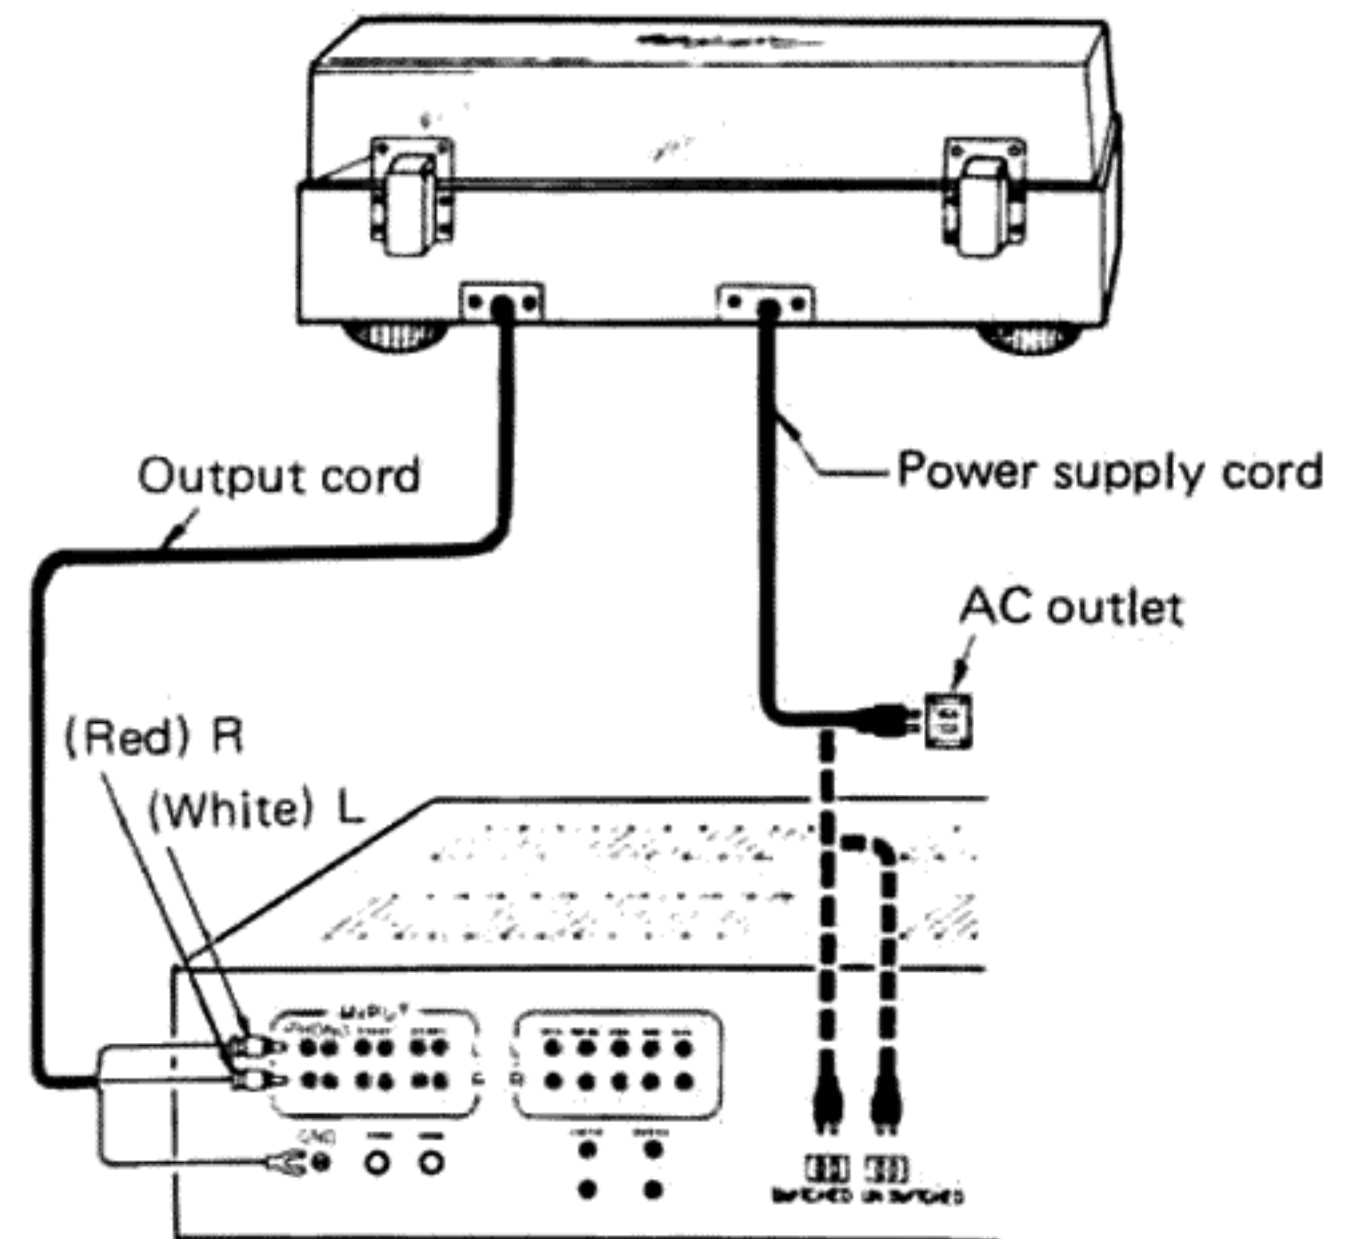

Fig. 10
Make sure to turn **OFF** the power switch of the amplifier and make the connections, as shown in Fig. 10.
- Are the output cables properly connected to the amplifier? Refer to Fig. 10 on page 9
- Is the ground wire connected to the amplifier? Refer to Fig. 10 on page 9
- Have the proper connections been made to the amplifier and are its settings proper for the type of cartridge (output) being used? Refer to Fig. 10 on page 9